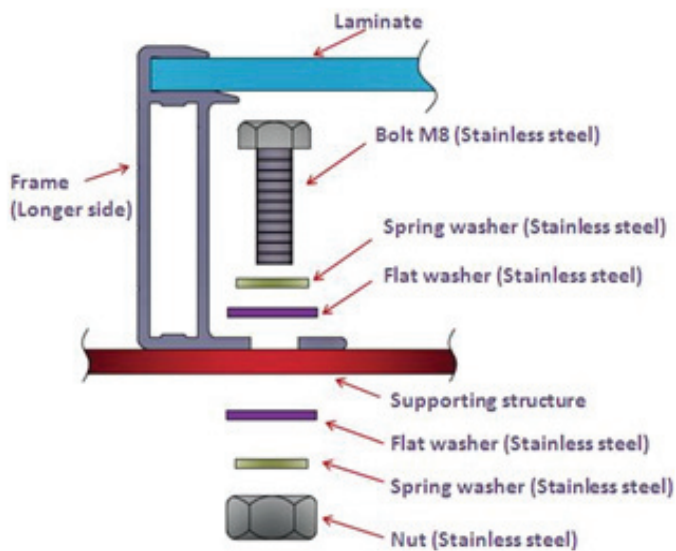

Fig 1.4
- The module frame must be attached to a supporting structure using M8 stainless steel hardware together with spring washers and flat washers (all fitting components must be corrosion-proof material) as shown in Figure 1.4.